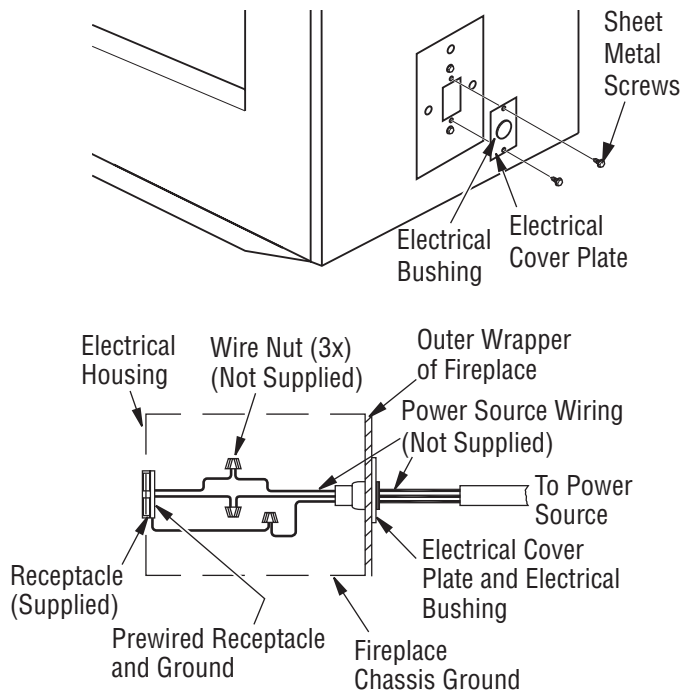

Figure 7 - Fan Switch-Electrical Bushing
Fan/blower kit electrical connections are made through electrical cover plate on side of fireplace as shown in Figure 7.
1. Remove electrical cover plate with bushing from fireplace by removing 2 sheet metal screws as shown in Figure 7.
3. Slide all wiring connections in electrical housing as shown in Figure 7.